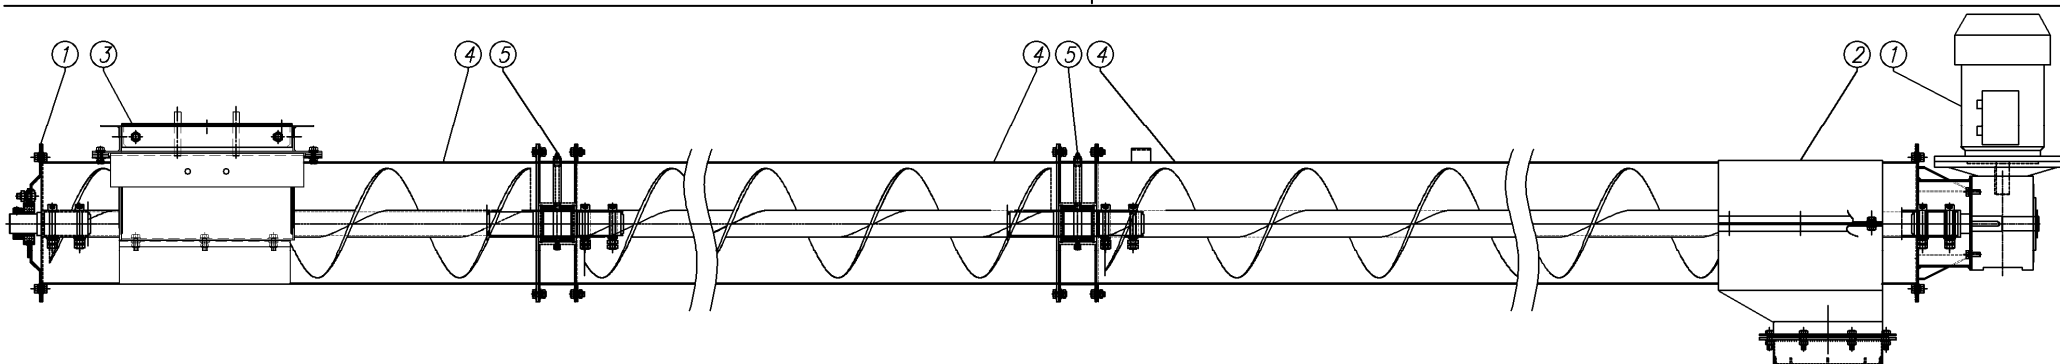

Fig. 17: PS220 – version with PSU220-WL-CENT.
- b) When very long screw conveyor is needed (see Fig. 17) (however, the total screw conveyor length cannot exceed 9 m for drives PS220-N3/200 and PS220-N6/300 and 12 m for drive PS220-N4/200), install few screw conveyor extension pieces, 4, with the use of intermediate bearings, 5, PS220-LOZ/P1.
- e) PS220 screw conveyors may be used as under-floor ones for discharging BIN type silos (see Fig. 17). To do that, add the central inlet, 3, PSU220-WL-CENT.